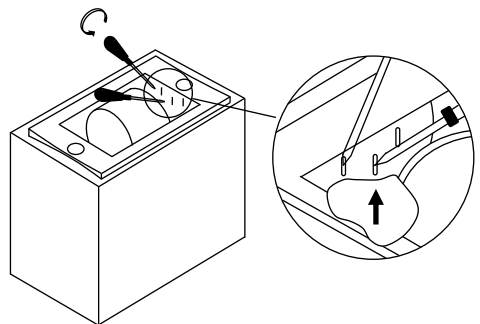

Fig 7
4. Move the plate using another screwdriver to clamp the Gruppo Incasso to the cupboard and then re-tighten the screws (Fig 7).